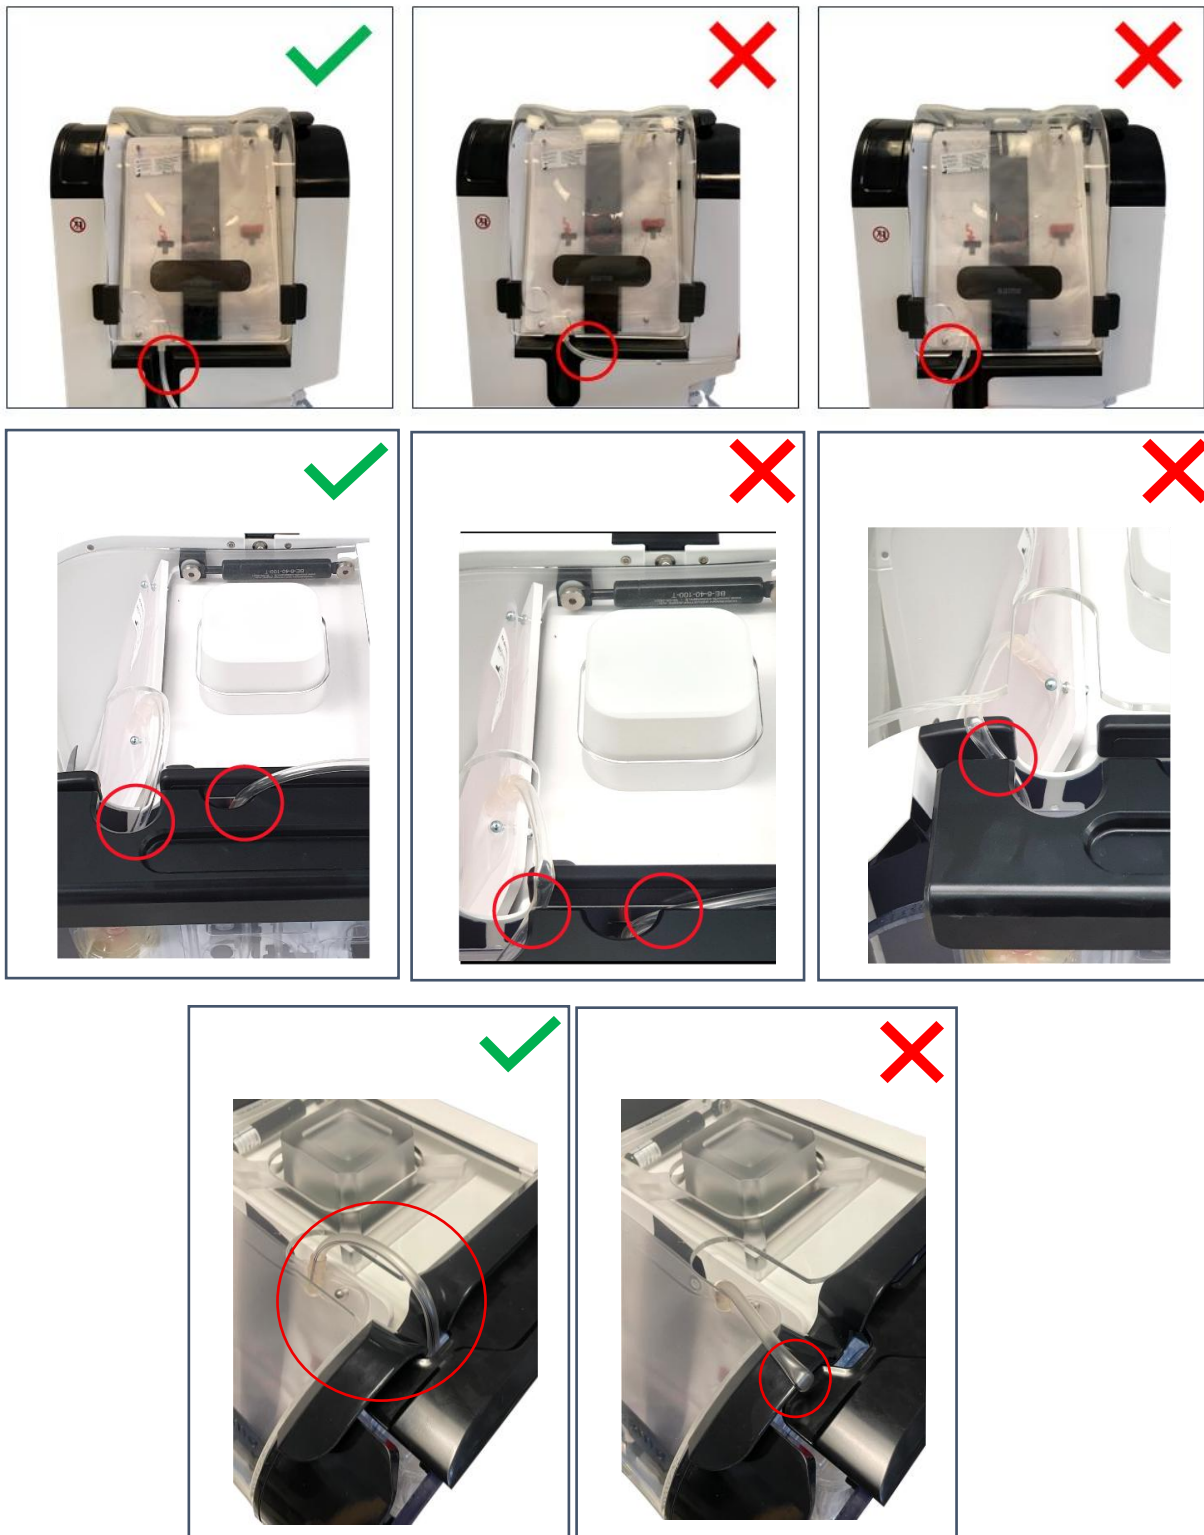

Figure 19: Correct and incorrect positions of the treatment bag
- In order to ensure that the blood is treated in a correct and reproducible manner, it is imperative to hang the bag from the 4 rods by the corresponding eyelets and to **not pinch the tubing between the protection lid and the structure of the ATS** (See Figure 19).